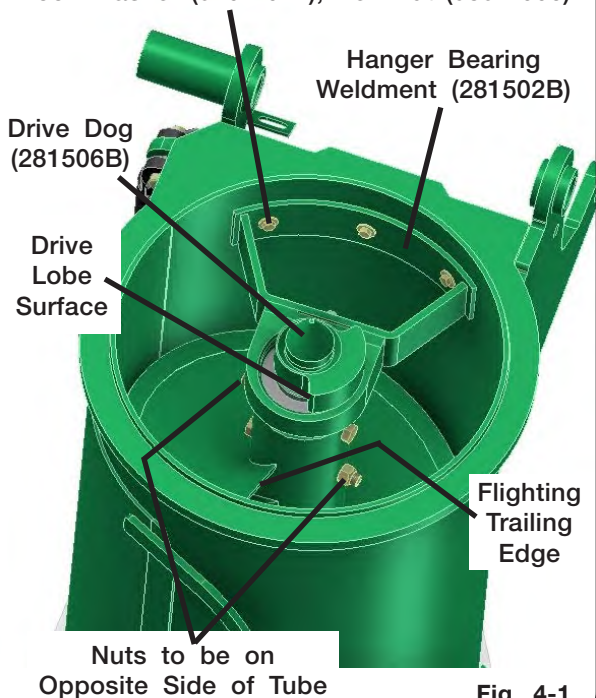

Fig. 4-1
1. Remove the three 3/8"-16UNC x 1 1/4" cap-screws (9390-056), six flat washers 3/8" (9405-076), three lock washers 3/8" (9404-021) and hex nuts 3/8"-16UNC (9394-006) which secures the hanger bearing weldment (281502B) to the auger tube (Fig. 4-1).
Lower Auger: Assemble the drive dog weldment (281506B) and hanger bearing weldment (281502B) to the auger making sure the drive dog weldment contact surface (for upper auger pin) is located approximately 30 degrees behind the lower auger flighting trailing edge. Secure with two 5/8"-11UNC x 6" capscrews (9390-136), lock washers (9404-029) and hex nuts 5/8"-11UNC (9394-014), installed opposite of each other, as shown in Fig. 4-1.
2. Using a safe lifting device rated for a minimum of 700 lbs., install the lower auger sub-assembly into the lower auger housing. Align auger end with the three pin drive bushing and securely engage together. Secure hanger bearing to housing wall with three 3/8"-16UNC x 1 1/4" capscrews (9390-056), six flat washers (9405-076), three lock washers (9404-021) and hex nuts 3/8"-16UNC (9394-006) (Fig. 4-1).